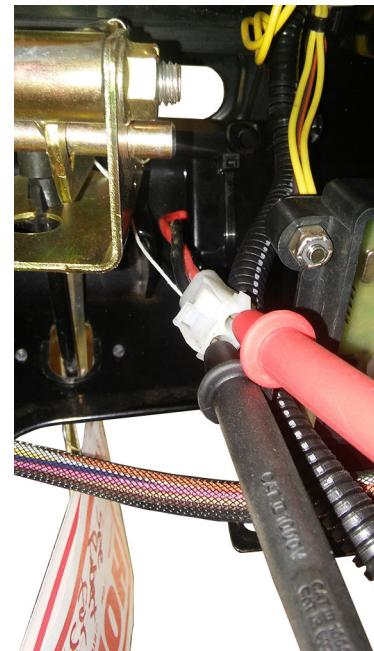

Figure 154
- b. Check the battery. With the engine off, the battery voltage should be 7.2 V DC – 8.4 V DC. See Figure 154.
If DC output is higher than 8.4 V DC, replace ECU. See Figure 154.